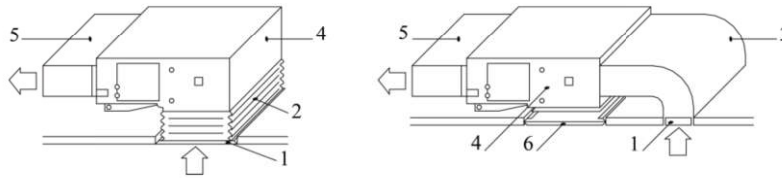

Fig.12
- The installation method can be chose with considering the conditions of the building and maintenance etc., as shown in Fig.12.